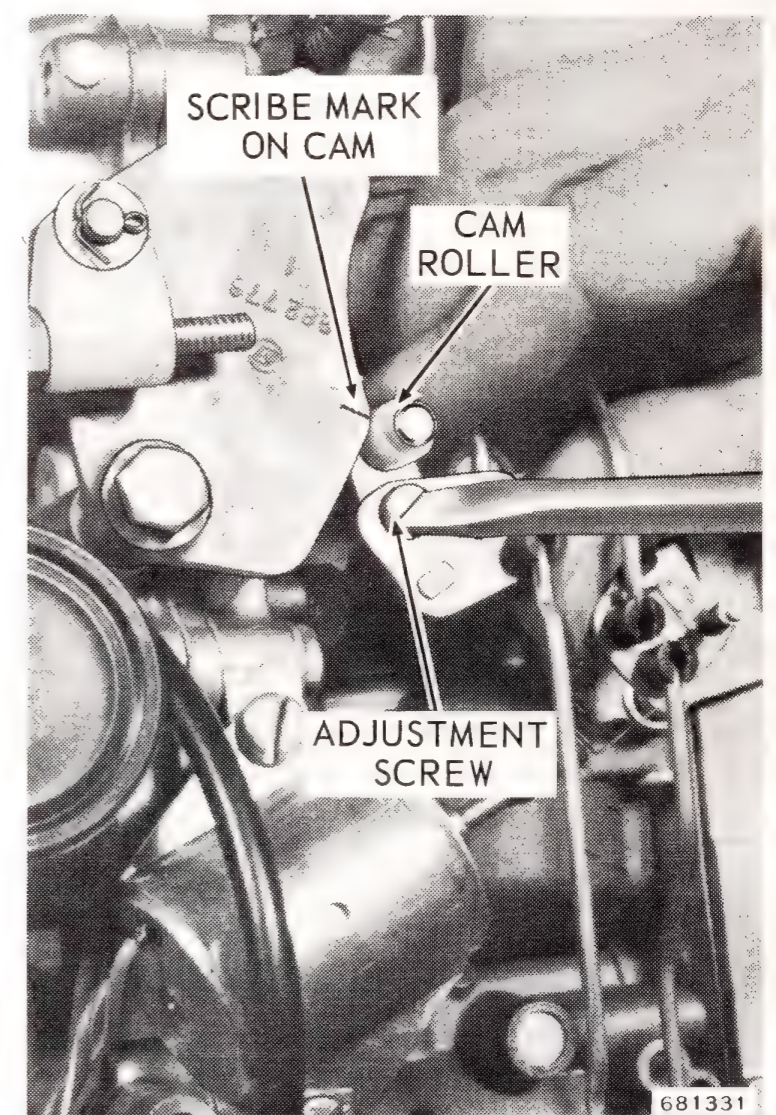

Figure 3-21. Synchronizing Throttle and Spark
- Scribe mark on throttle cam should align with center of cam follower roller. See Figure 3-21.
- With scribe mark on throttle cam aligned with center of cam follower roller, loosen center carburetor throttle arm screw. Move arm to close throttle valves and retighten screw. See Figure 3-21.